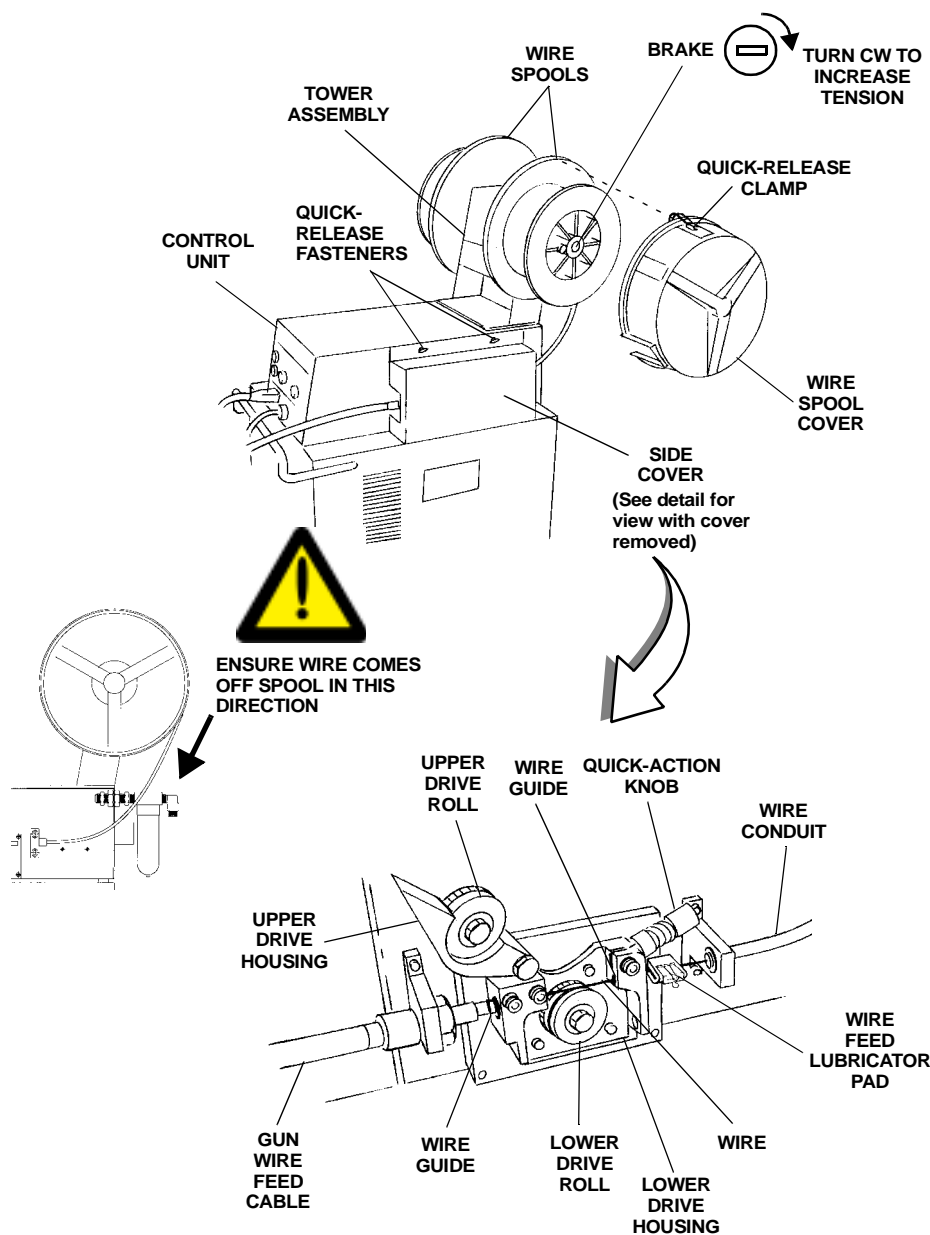

FIGURE 5.1 LOADING METALLIZING WIRE
To Load Metallizing Wire (Figure 5.1)
10. Place wire feed lubricator pad on wire (see Figure 5.1).